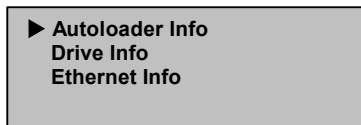

Figure 56: Select SuperLoader Info
3. On the Status submenu, scroll to SuperLoader Info. (See Figure 56.)
3. On the Status submenu, scroll to Drive Info. (See Figure 56.)